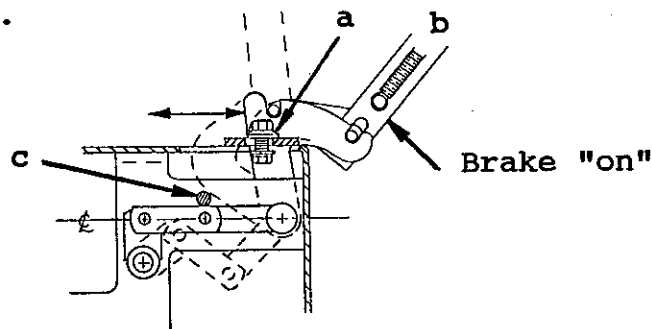

Fig. 6 Parking Brake Quadrant Adjustment
- Check linkage to ensure that they butt up against the overcentering stop bolt and tighten down the two 5/16-18 HHCS. See Figure 6.